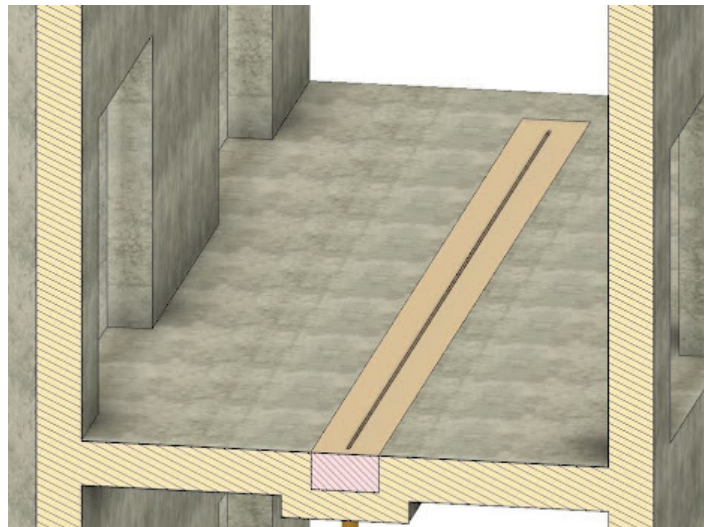

Figure 4: Encase drain in concrete
5. Once the drain is installed and anchored, encase the drain and the remaining void in concrete and allow it to cure as specified by the engineer of record (Figure 4).